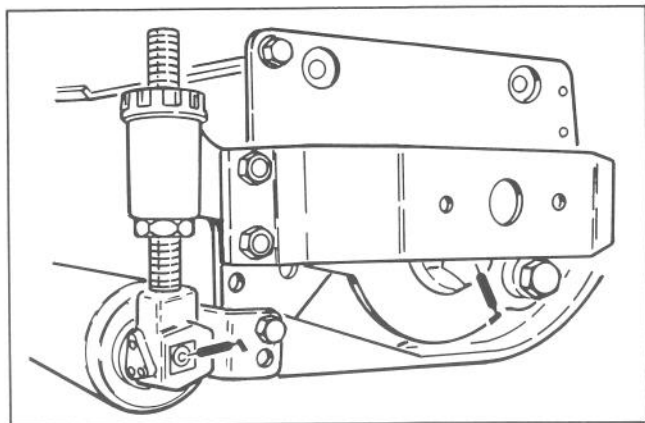

Figure 7
There are (4) grease fittings on each thatching reel unit. One on the end of each roller and reel shaft. Each should be greased daily with #2 general purpose grease (Fig. 7).